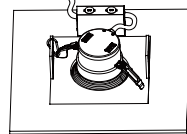

Fig. 6
- Step 6: Once lamp is inside the housing, release the housing clips and continue pushing lamp into housing until securely fixed and flush with ceiling ( Fig. 6).